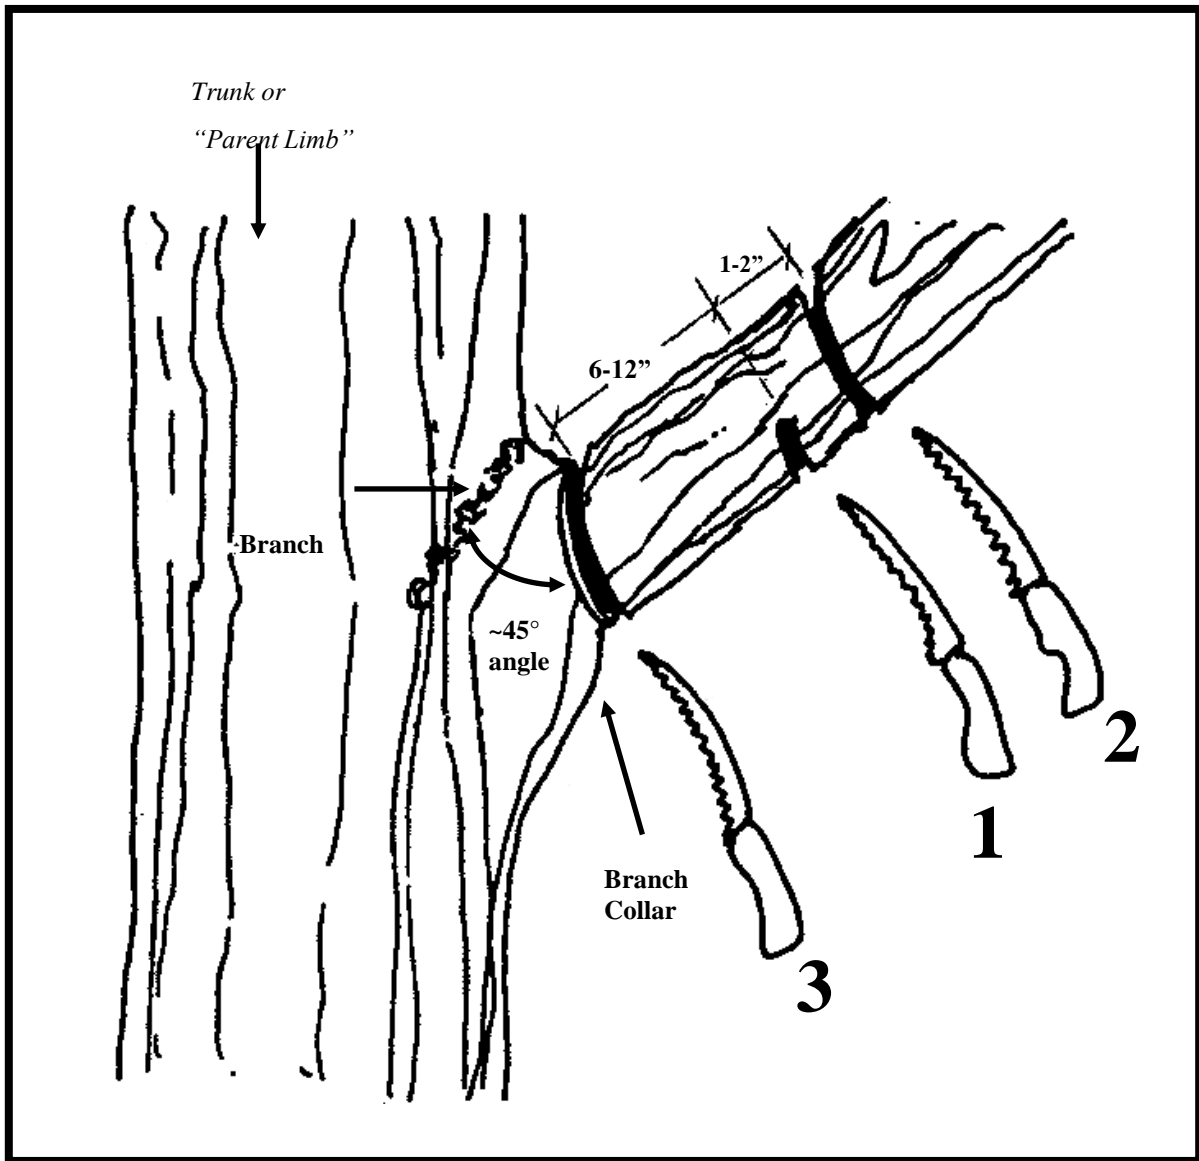

Figure 3. The 3-Cut Pruning Method
13. Make proper pruning cuts using the 3-cut method, avoiding stub cuts, flush cuts, and wounds to remaining limbs and trunk (see Figure 3).
A recommended method commonly employed to safely remove large tree limbs is illustrated in Figure 3.
When removing a branch, make your cut back to the trunk or parent limb, just outside the branch collar, or at an approximately 45 degree angle to the branch bark ridge if the collar is not visible. In Figure 3, Cut 1 is made first, then Cut 2 is made just outside of Cut 1. At this time the majority of the branch begins to fall, breaks at Cut 1, and is removed without stripping the bark below Cut 1. Cut 3 is then made just outside the branch collar or swelling at the base of the branch and the remainder of the branch or limb is removed.